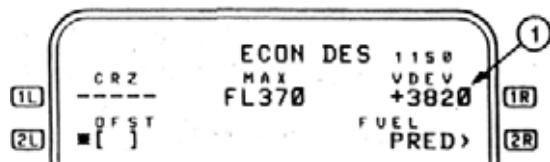

Figure 2-120
and the PROG page (1), Figure 2-120). Deviations over 1000 ft., are not displayed on the PFD.